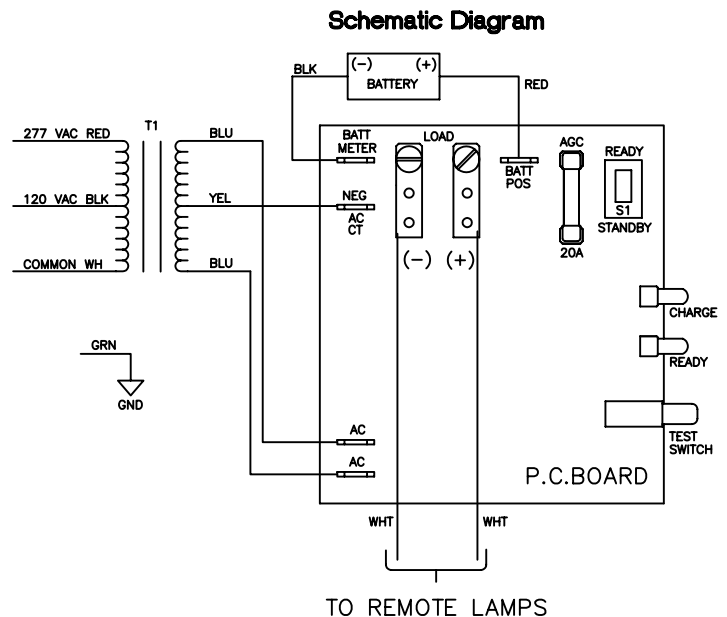

FIGURE 3
4. Connect lamphead leads, one lead to load (+) terminal, the other lead to Load (-) terminal on P.C. Board. See Figure 3
- Connect battery (+) lead to Batt. POS. terminal and battery (-) lead to Batt. NEG. terminal on P.C. Board. See Figure 3